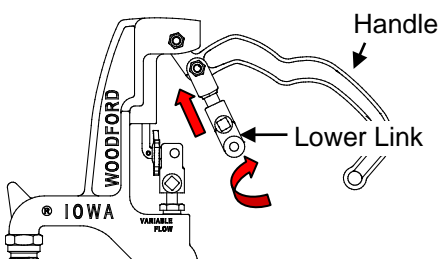

Fig 3
- Turn in (clockwise) to shorten the Clevis Assembly. Fig 3